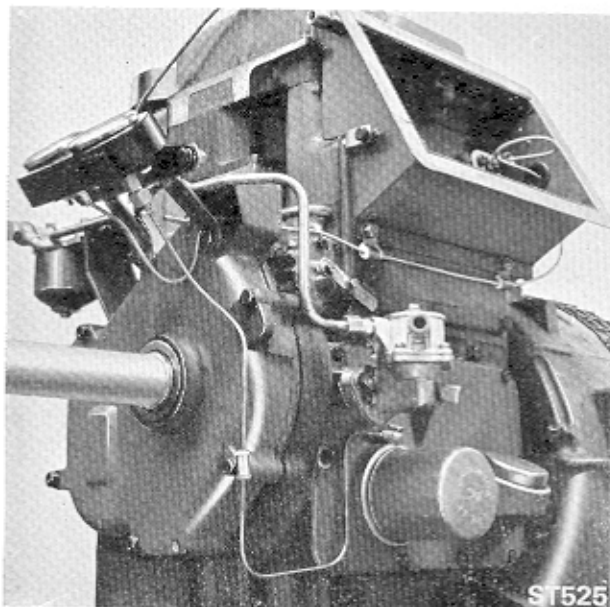

Fig. 106. Air Temperature Gauge
**AIR TEMPERATURE GAUGE (Fig. 106)**
Figure 106 shows a multi gauge panel, fitted to the gear end of the engine containing both a Lubricating Oil Pressure and an Air Temperature Gauge. Please note that where an outlet duct is fitted—as illustrated—the connection from the probe to gauge is routed through a drilling in the side of the duct.